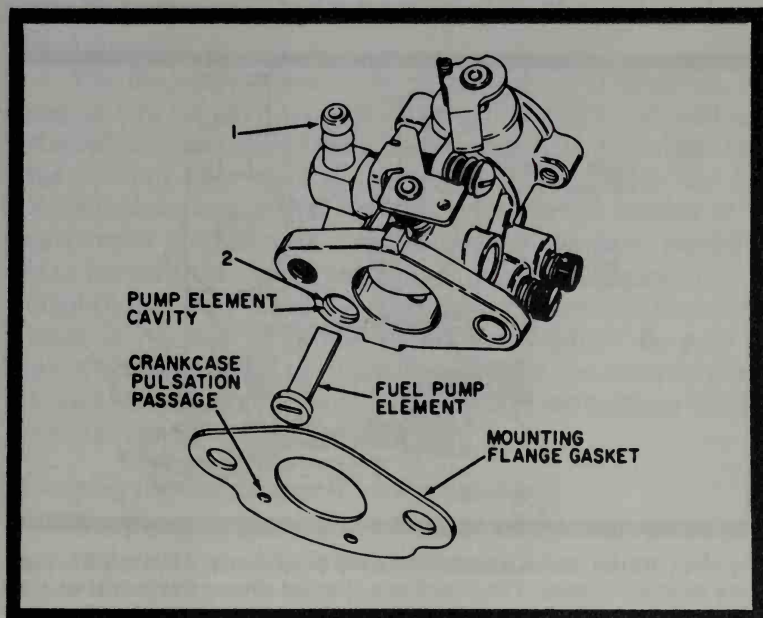

Fig. 4-19. This Tecumseh design includes a fuel pump element.
The second type of diaphragm carburetor is very similar to the above, but has the additional refinement of a fuel pump. Either there will be two separate diaphragms in the separate chambers above each other or, more commonly, there will be a single diaphragm and a fuel pump element as in the Tecumseh pattern shown in Fig. 4-19. On inflation (Fig. 4-20) the pump element (1) expands and forces fuel out of the pump cavity (2) against the inlet fitting check valve (4) which closes, and into the needle valve by way of the body check valve (5). From this point, the carburetor functions as described in the preceding paragraph.